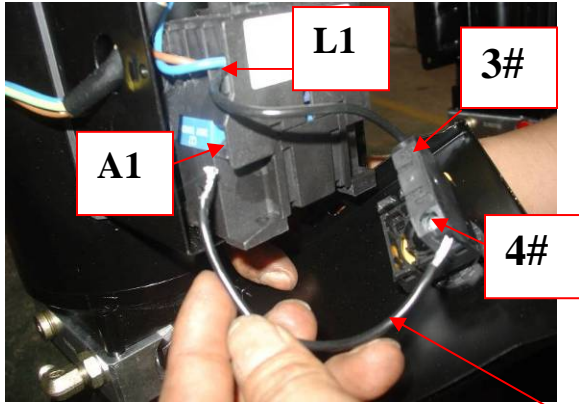

Fig. 35 Remove this line before connecting the Limit Switch
4. Connecting the Limit Switch: Remove the line of Connecting Terminal 4# on the up button and **A1** on the AC contactor (See Fig. 35). Then connect wire 12# on the Limit Switch with Terminal 4# on the control button and connect wire 11# with terminals **A1** on the AC contactor.